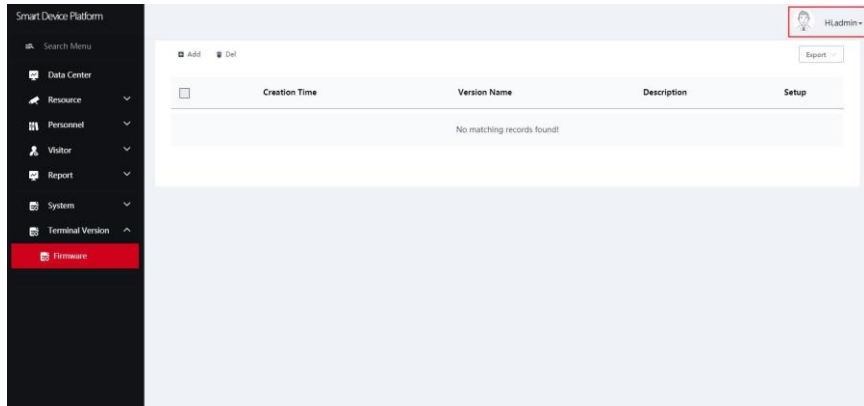

Figure 5-108
Step 1: In the smart device platform interface, click "  ", as shown in Figure 5-108 below.